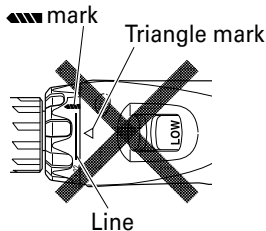

Fig. 12
- (1) When using this unit as a screwdriver, line up the one of the numbers "1, 3, 5 ... 22" on the clutch dial, or the black dot, with the triangle mark on the outer body.
- (2) When using this unit as a drill, line up the clutch dial drill mark "▲" with the triangle mark on the outer body.
- Do not use with the clutch dial set at the line between the number "22" and the drill mark "▲". Doing so may cause damage (See Fig. 12).